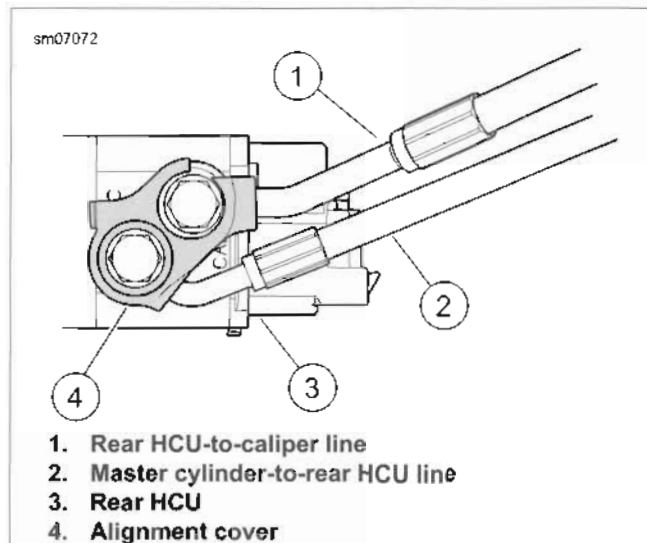

Figure 2-67. Rear HCU Fittings Properly Installed
2. Install alignment cover (7).
3. See Figure 2-67. Verify both brake lines at rear HCU are properly positioned.